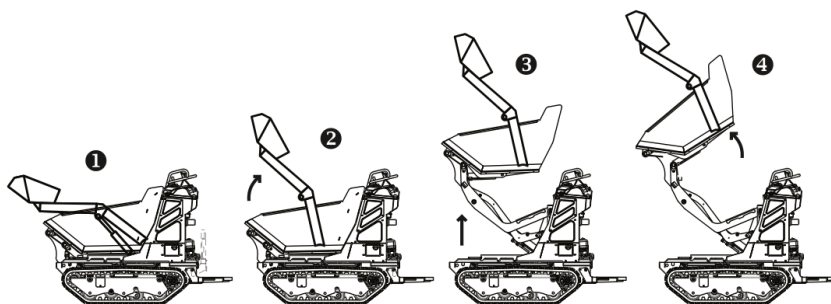

fig. 4.10 – Position for High Discharge (HAC)
3. **WITH THE MACHINE STOPPED**, raise the skip to the desired height by pushing the lifting lever forward (➊ - see fig.4.10).
3. Pull the self-loading device lever backward to its full stroke to raise the bucket (2 – see Fig. 4.10).
4. Raise the skip to the desired height by pushing the lifting lever forward (3 – see Fig. 4.10).